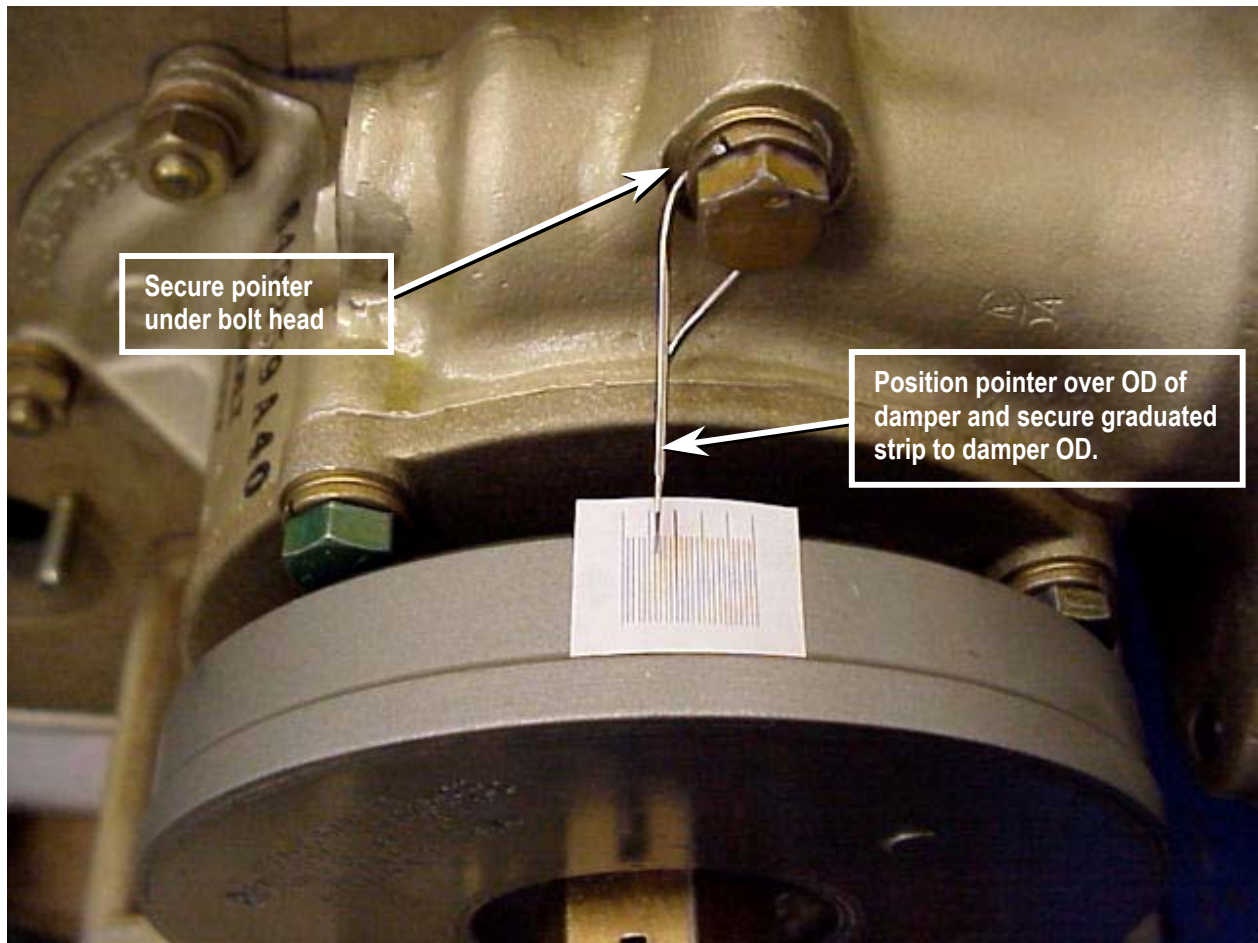

FIGURE 4. DAMPER SHAFT BACKLASH MEASUREMENT
6. Loosen the starter adapter bolt at the 12 o'clock position. Secure the looped end of the wire under the bolt head and position the pointer over the center of the viscous damper OD. Moderately snug the bolt to hold the pointer stationary. See Figure 4 on page 7.
7. Fabricate a measuring strip 1 inch long, graduated in .02 inch increments, from heavy paper stock. Then secure the measuring strip to the previously cleaned OD of the viscous damper using Scotch Tape. See Figure 4 on page 7.